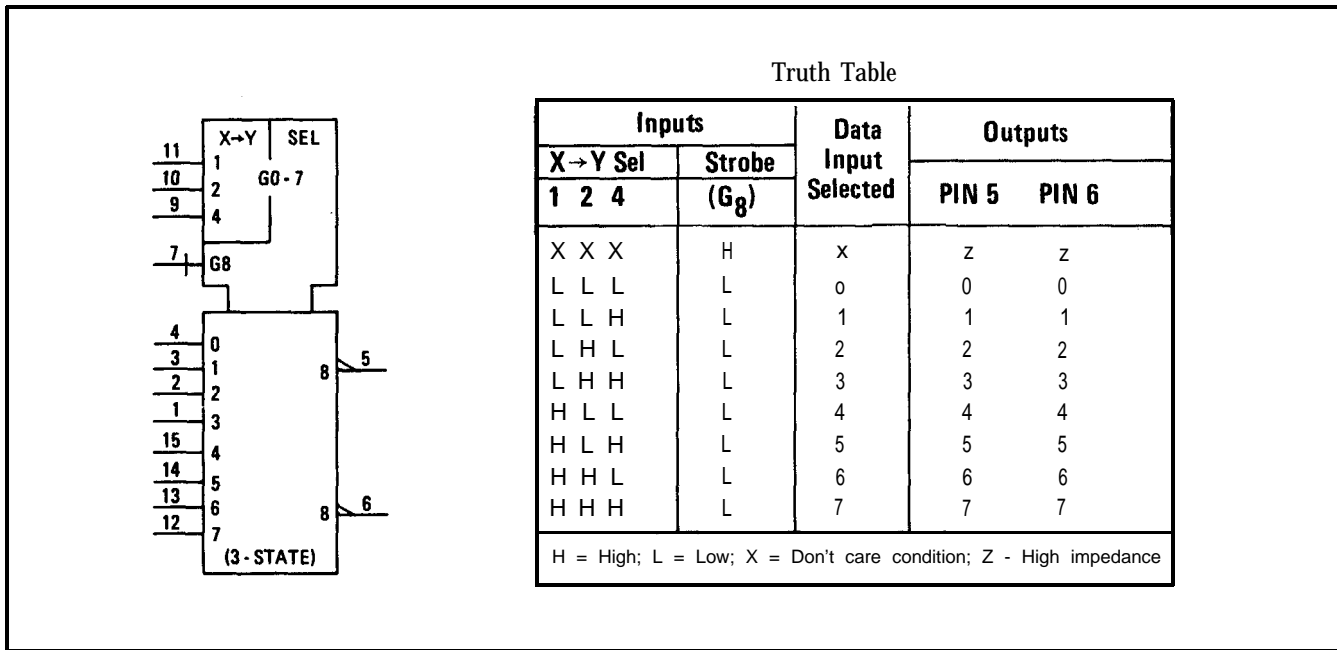

Figure 8-10. 8-Input Data Selector (Multiplexer)
**8-47. Data Selector (Multiplexer).** There are two types of data selectors used in the Power Meter: an 8-input data selector and a 16-input data selector. The operation of both data selectors are identical except for the number of inputs. Therefore only the operation of the 8-input data selector is described and the symbol shown in Figure 8-10. One of the 8-input lines (0 through 7) is selected by the SEL output (GO through 7). The strobe input (G8) must be low in order to enable the output lines. If the strobe input is high, the output lines are inhibited and present a high impedance. This circuit uses Three State logic so that the outputs may be connected into a "wired OR" configuration.